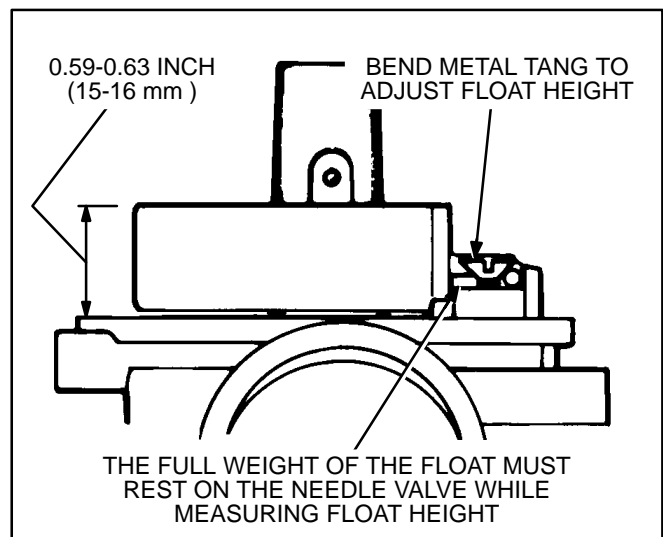

FIGURE 25. FLOAT LEVEL (GASOLINE)
3. See Figure 25. Check float level as shown while the carburetor is still upside down. Measure the height above the bowl gasket flange on the side opposite the hinge. Make sure the full weight of the float is resting on the needle valve. Remove the float and bend the metal tang to adjust the height.